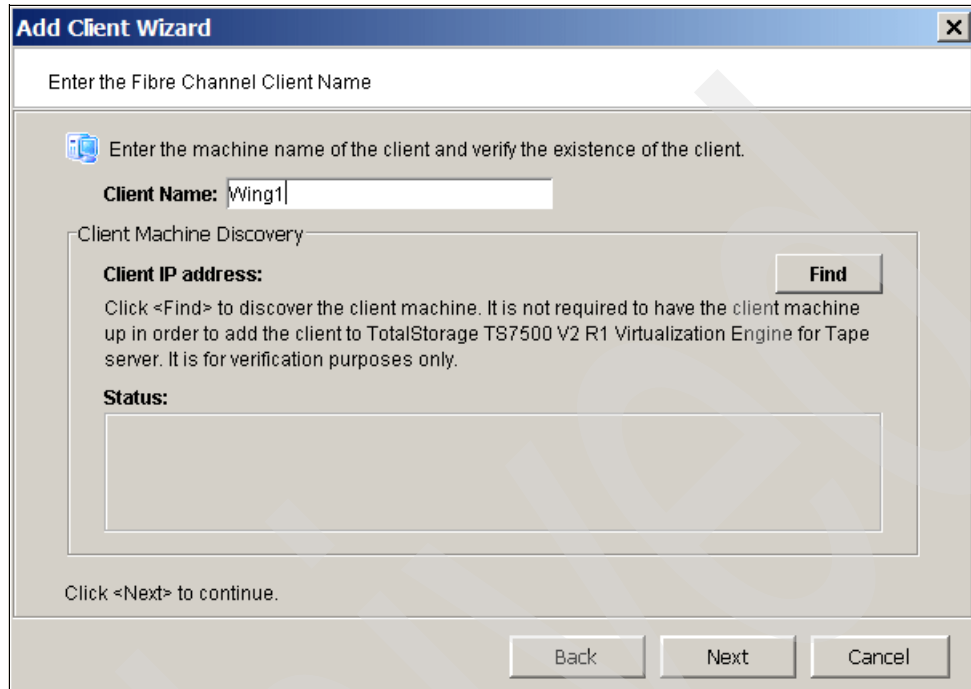

Figure 8-20 TS7500 - Specify SAN client name
3. In the *Enter the Fibre Channel Client Name* panel (Figure 8-20), type the client name. Client name indicates the name of initiator IOA (i5/OS partition Fibre Channel adapter). You can specify the name as you want. Then click **Next**.